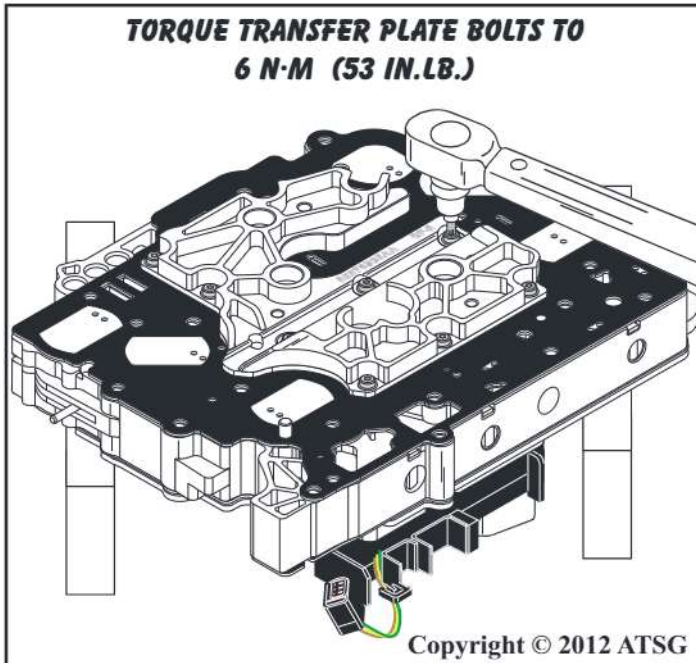

Figure 226
46. Torque the 14 transfer plate to solenoid body retaining bolts to 6 N·m (53 in.lb.), as shown in Figure 226.